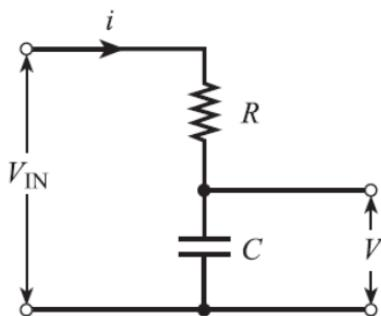

Figure 2.1: R-C Circuit
- Construct the circuit as shown in Fig. 2.1 with given electronic components.